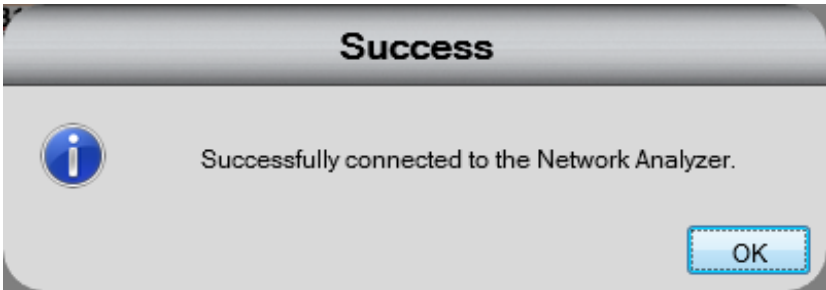

Figure 3-14: Network Analyzer Test Success Message
14. In the Choose Model field, select your network analyzer from the menu. This example uses the Agilent Technologies: E5071C, a message displays, as shown in Figure 3-14.